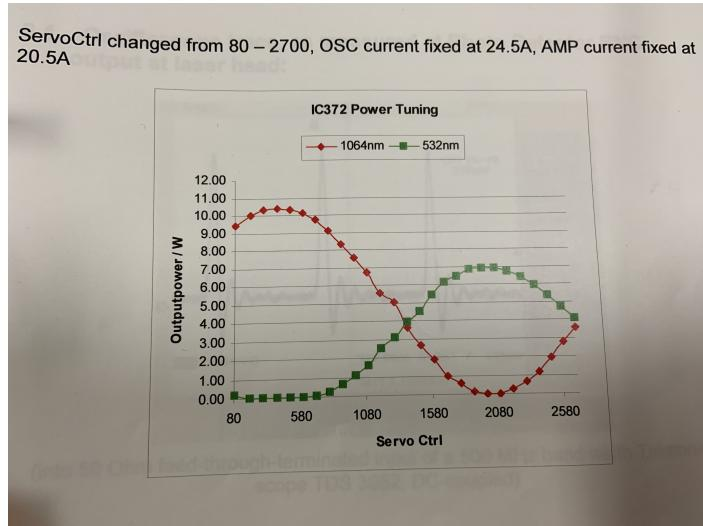

FIGURE 5 – *ServoCtrl* adjustments.
1. Verify that *ServoCtrl* on the OSC monitor is at the value that you want. It might be possible that the OPO laser is not pumped enough to produce an intense signal at the output. Follow figure 5 to select the right *ServoCtrl* value for your application.